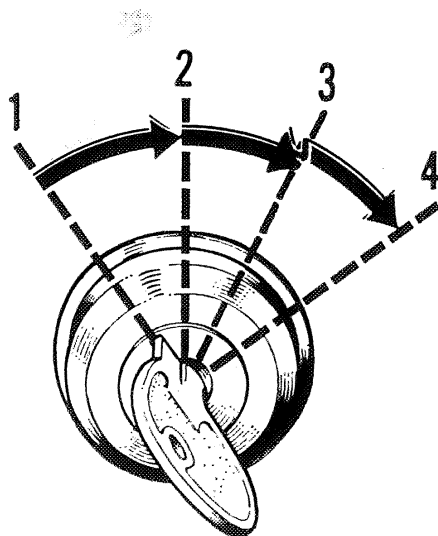

Fig. 7. Key switch
6. **Key switch, (see Fig. 7)**
3. Turn the starting key to the running position (position 2 acc. to Fig. 7). Check that the charging control lamp and oil pressure warning lamp light up.
5. Push in the starting key and turn it to position 4 (see Fig. 7), at which the starter motor is engaged.